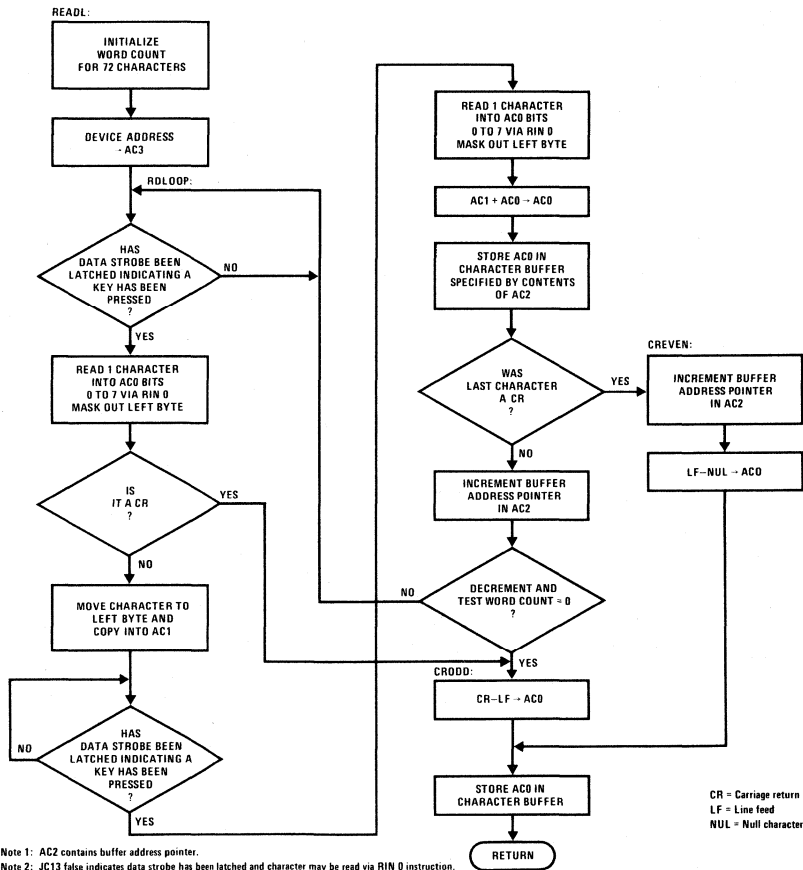

FIGURE 5. Flowchart of Subroutine (READL) that Reads One Line from the Keyboard
and insert line delimiters—carriage return (CR) and line feed (LF). A flow chart and coding for the program are given in Figures 5 and 6.